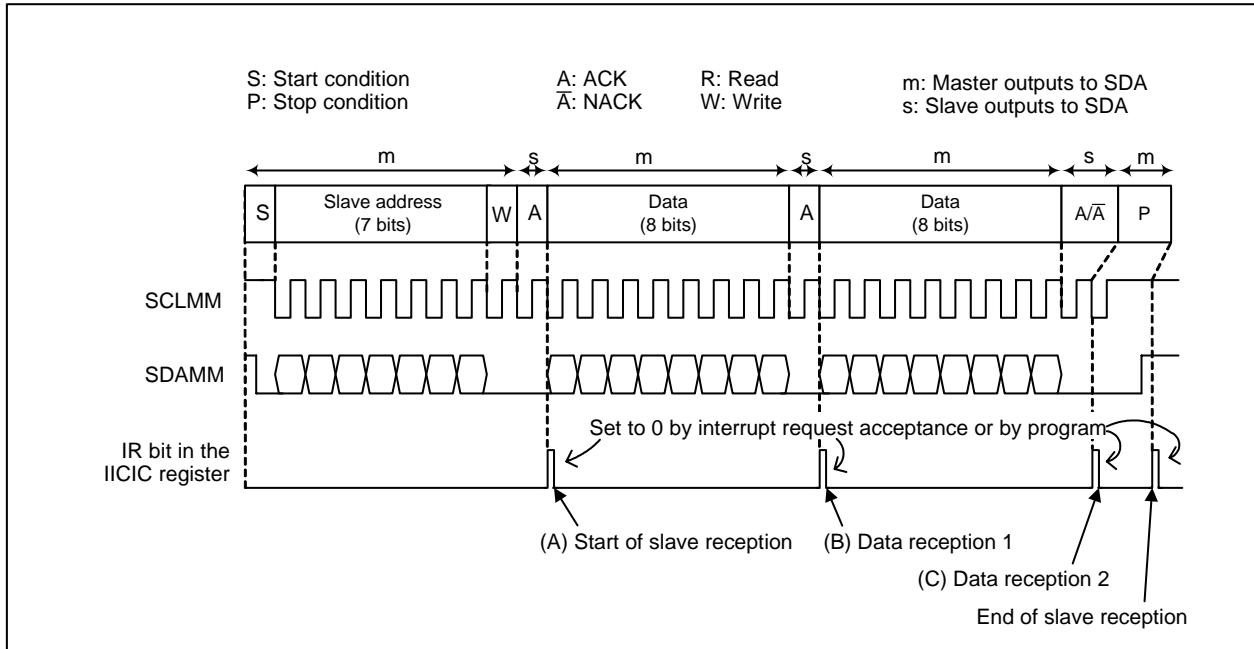

Figure 21.19 Example of Slave Reception
- (1) Read the received data from the S00 register.
- (2) Write C0h to the S10 register (stop condition standby state).
- (3) Write dummy data to the S00 register (stop condition generated).
The slave reception is described in this section. The initial settings described in 221.3.10.1 "Initial Settings" are assumed to be completed. Figure 21.19 shows the example of slave reception. The following programs (A) to (C) are executed at the (A) to (C) in Figure 21.19, respectively.